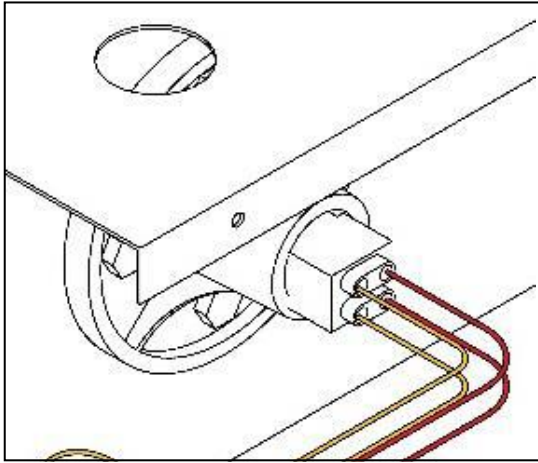

Figure 21
4.) Disconnect lamp plugs from lamps that will be replaced. See Figures 21 and 22.
- 10.) Reconnect lamp plugs. See Figures 21 and 22.